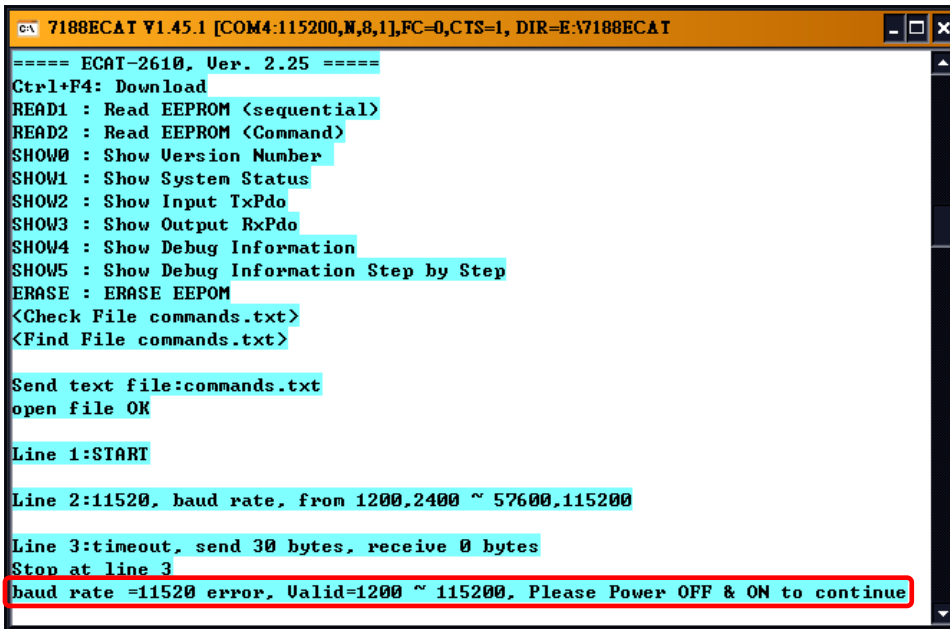

Figure A4-24
1. If there are any errors in the configuration data (commands.txt), the ECAT-2610(-DW)/2611 module will stop and wait until you reboot it (i.e., switch the power OFF and ON) before continuing, as illustrated in Figure A4-24. Please check the configuration data (commands.txt) to correctly configure the parameters, and then upload the configuration data (commands.txt) to the ECAT-2610(-DW)/2611 module again.